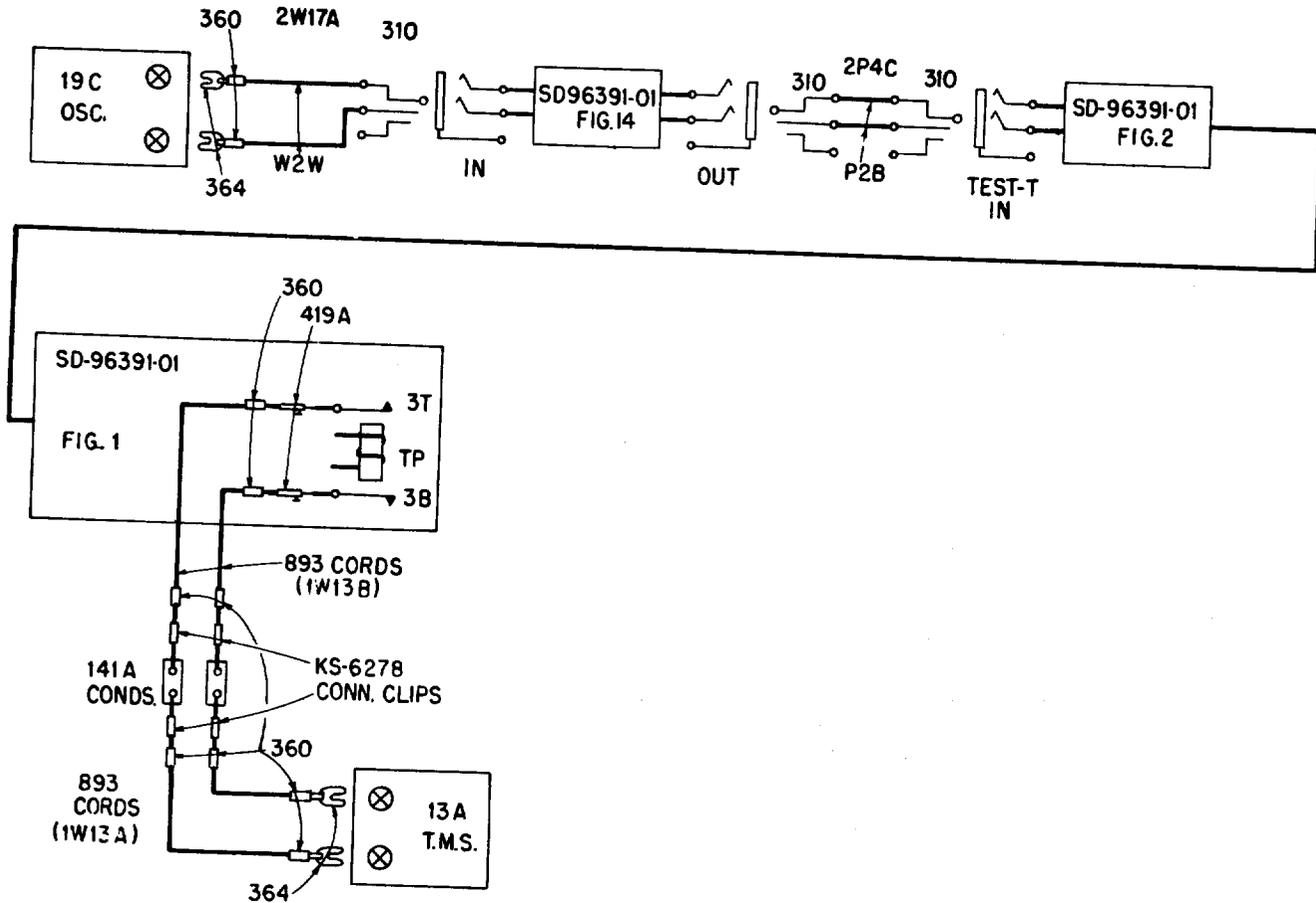

Fig. 1
- 9 Provide connections as shown in Fig. 1.
- 10 Remove all connections established in Fig. 1.